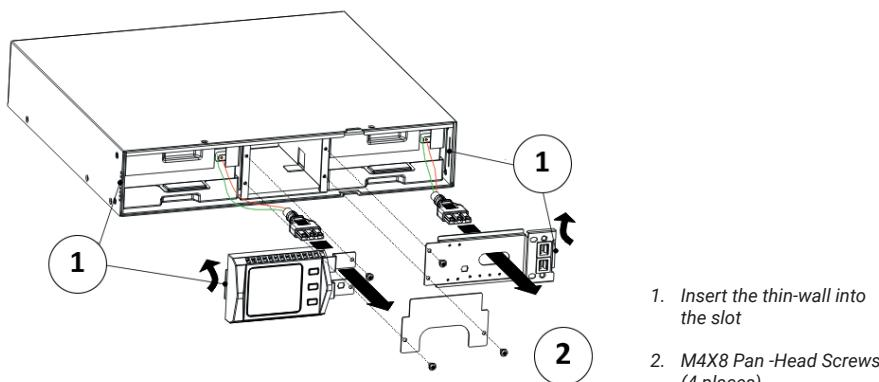

FIG 27: Installation for battery pack
5. Hold the middle of the new battery pack, insert it. Once install the new battery pack, make sure it is completely inserted into the chassis as fig 27 shown.